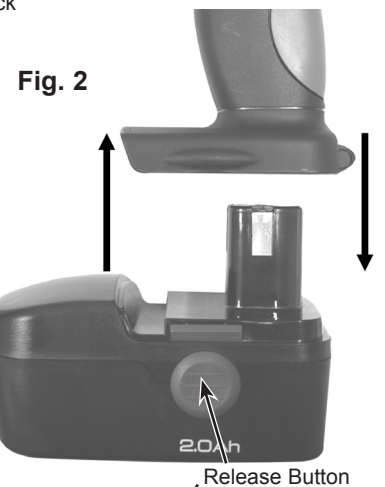

Fig. 2
3.1.1 To remove the battery from the wrench, grasp both sides of the battery pack and squeeze the release buttons on each side (Fig. 2 & 2A), withdraw pack from wrench (Fig.2).